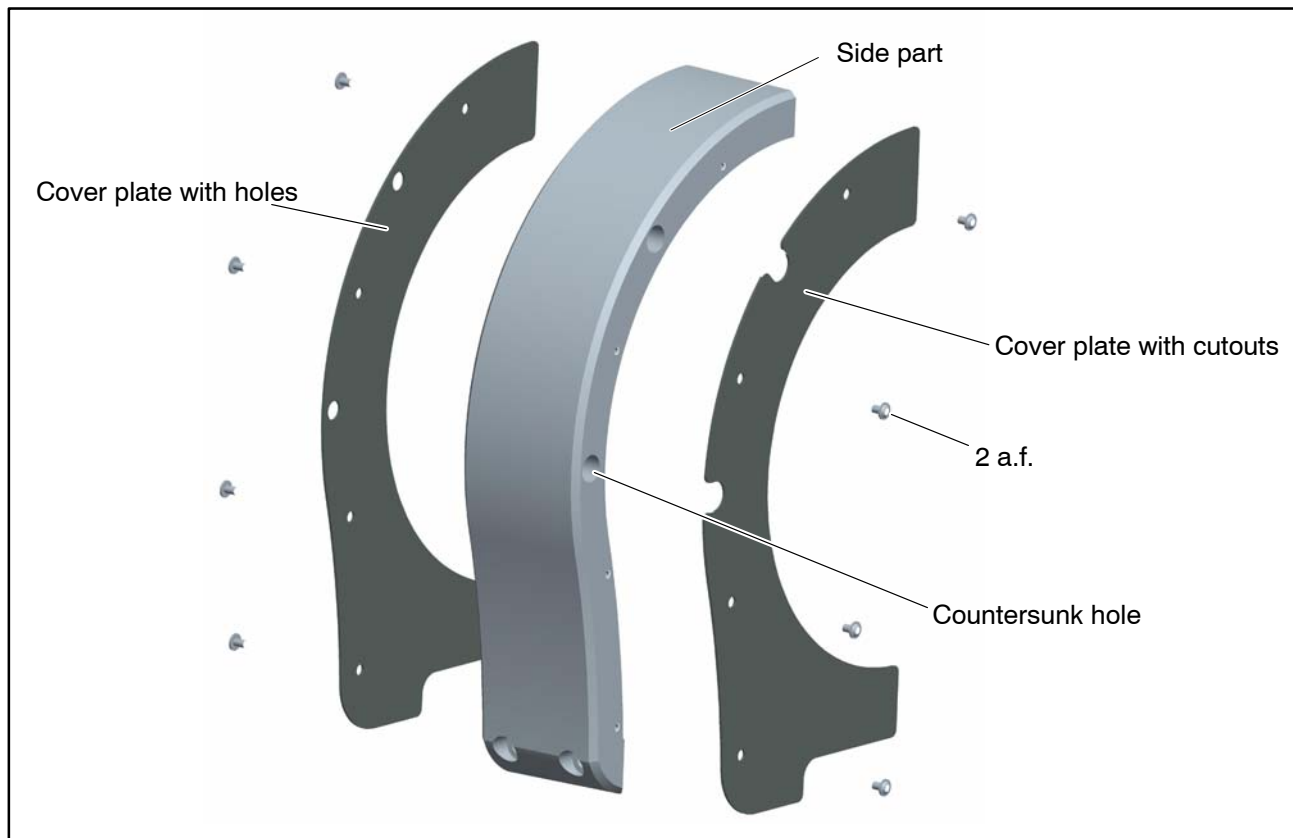

Fig. 6.7: Fit the cover plates
4. Screw the cover plate onto the side parts (screws with hexagon socket 2 a.f.; tightening torque $M_A = 1 \text{ N} \cdot \text{m}$). Note that the cover plate with cutouts must be fitted onto the side with countersunk holes! (see Fig. 6.7).